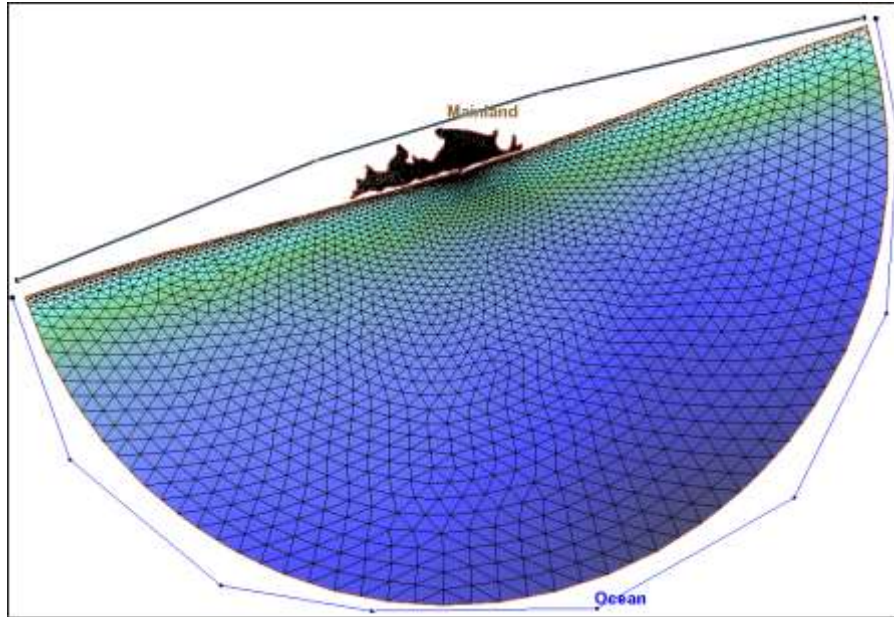

Figure 3 Feature arcs after boundary types have been assigned
5. Using the **Select Feature Arc**  tool, double-click the arc representing the mainland boundary as shown in Figure 3 to open the *Assign Linear BC* dialog.
With both arcs assigned the boundary condition coverage will be displayed as Figure 3.